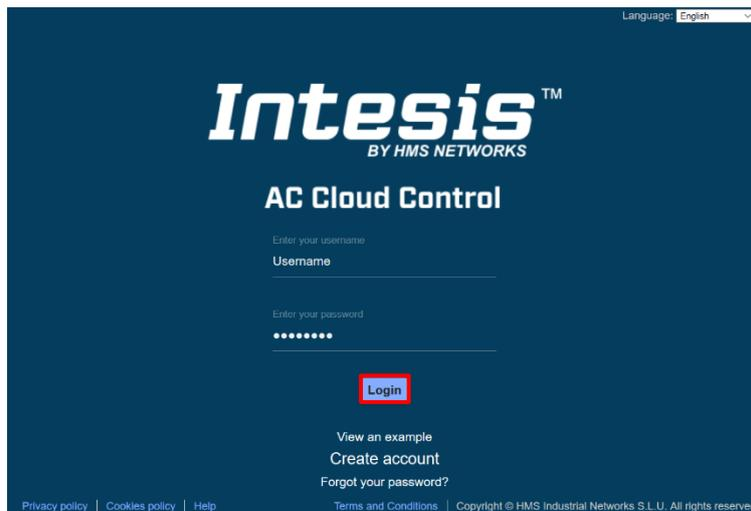

Figure 3.2 AC Cloud Control login site.
3. Go to Settings, either clicking on settings button or on the settings icon of the quick access menu placed in the top in the right side (See Figure 3.2).